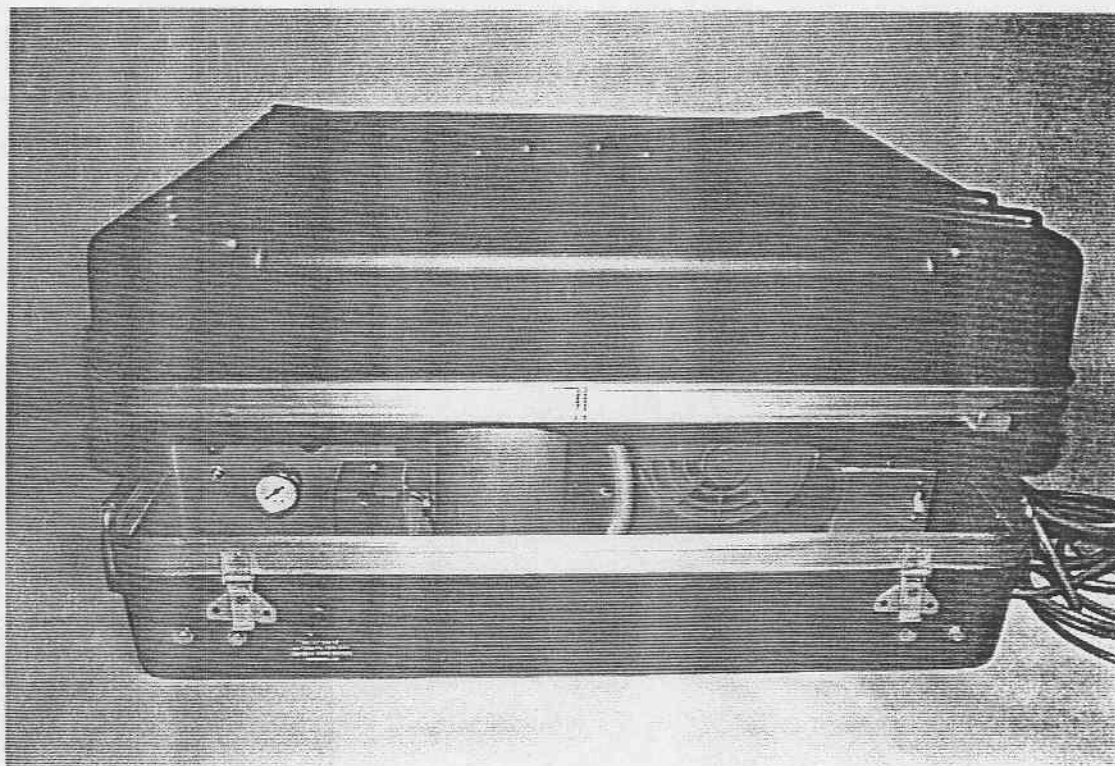

FIGURE 2-1
- g. Rotate four transit cover supports. Place transit case cover on supports. (Refer to Figure 2-1.)